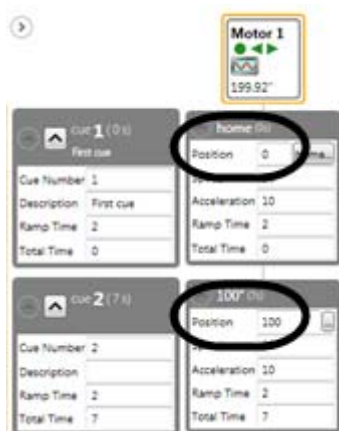

Figure 256
*In the example in Figure 256, the **Position** targets are “0” and “100.”*